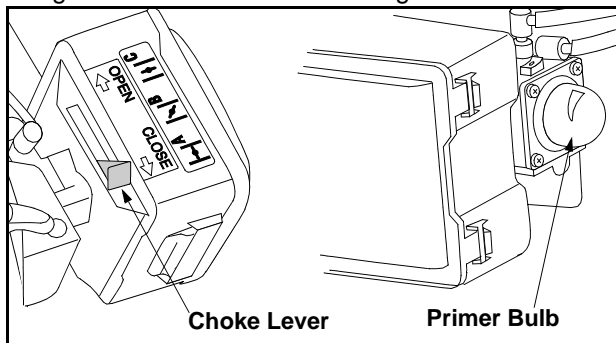

Figure 5
- Push On/Off switch on upper handle to On (I).
- Place choke lever in Close (A) position. See Figure 5.
- Fully press and release the primer bulb slowly 5 to 7 times. Gasoline should be felt and visible in the bulb. Press primer a few more times, if gasoline is not noticed. See Figure 5.
- Move the choke to Partial (B) position.